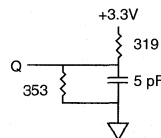

Fig. 2 OUTPUT LOAD EQUIVALENT
- $t_{HZCE}$  and  $t_{HZWE}$  are specified with  $C_L = 5pF$  as in Fig. 2. Transition is measured  $\pm 200mV$  from steady state voltage.